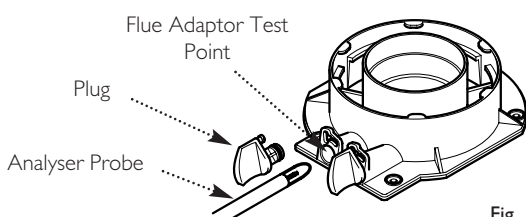

Fig. 111
8. Remove the plug from the flue adaptor test point. Insert the analyser probe and allow time for the reading to settle (Fig. 111).